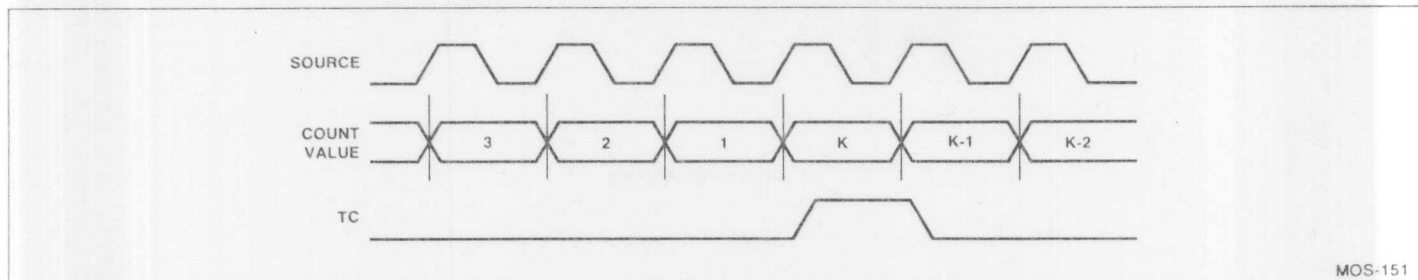

Figure 16. TC Waveform Format.
One output form available is called Terminal Count (TC) and represents the period of time that the counter reaches an equivalent value of zero. Figure 16 shows a Terminal Count pulse and an example context that generated it. Notice that the TC width is determined by the period of the counting source. Figure 16 assumes active-high source polarity, counter armed, gate active, counter decrementing and a reload value of K.